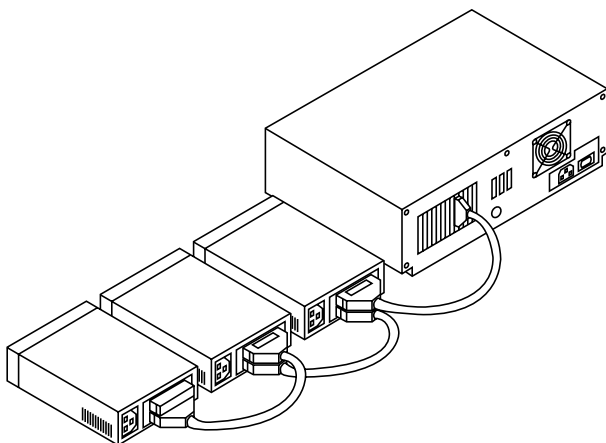

Figure 4-5. An external SCSI daisy chain.
4. To connect other external SCSI devices, use additional external SCSI cables to daisychain each device to the previous device until all external SCSI devices have been connected, as described in the peripherals' documentation and as shown in Figure 4-5 on the next page (refer to the peripherals' documentation for more information). Remember to terminate the last external device.